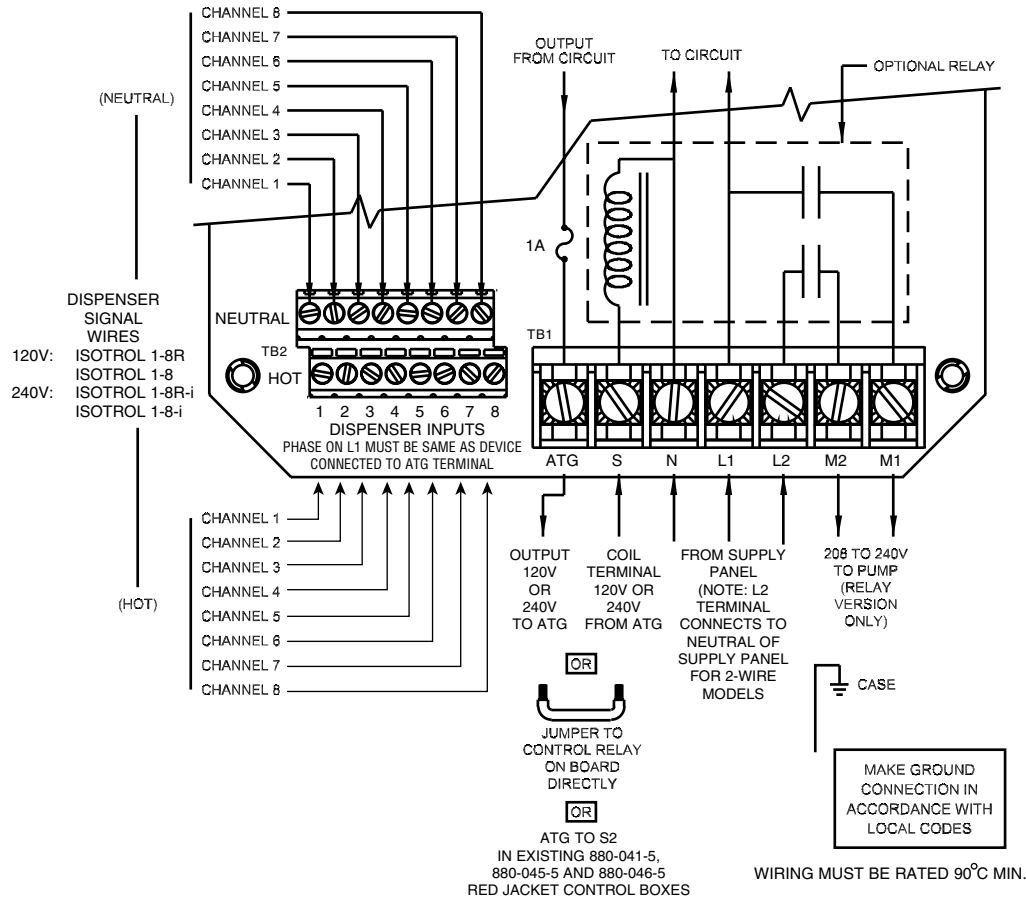
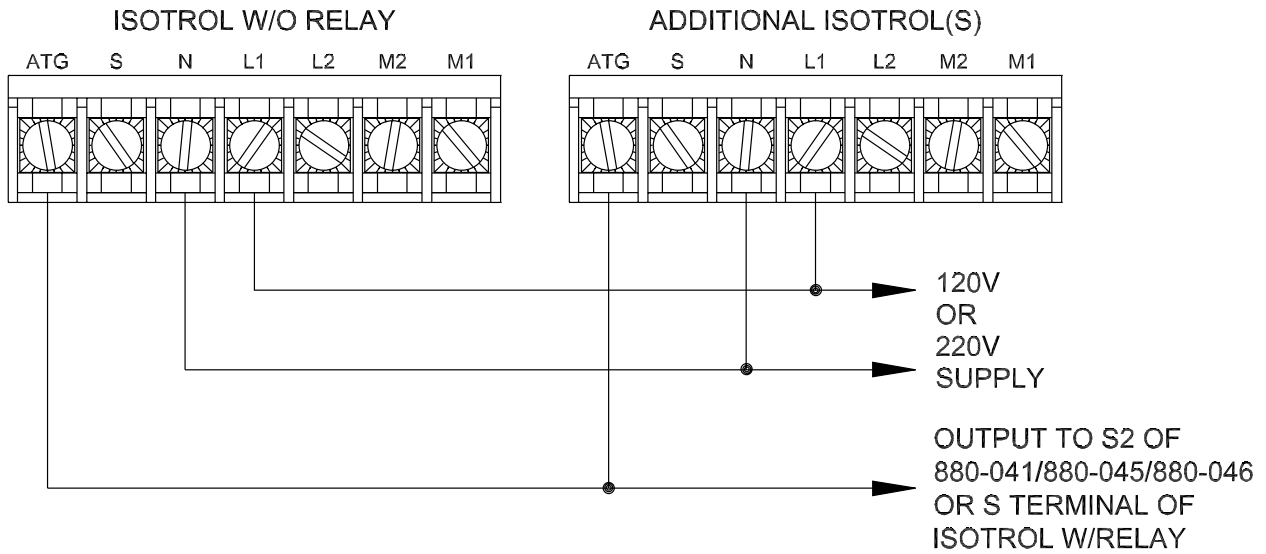

Figure 1
Figure 2
The voltage in the device description above identifies the circuit board power, dispenser input signal levels, and the coil rating for the optional relay. Control boxes with relays installed have contacts rated DPST 30A, 240V, 50/60 Hz. Refer to Figure 1 for correct electrical connections to the control box.
- Use Figure 1 above or the diagram on the inside of the enclosure lid to connect input power to the L1, L2, and N terminals of TB1 (10 to 18 AWG). A connection to the L2 terminal is only necessary on units that have relay. For multiple box installations refer to Figure 2.